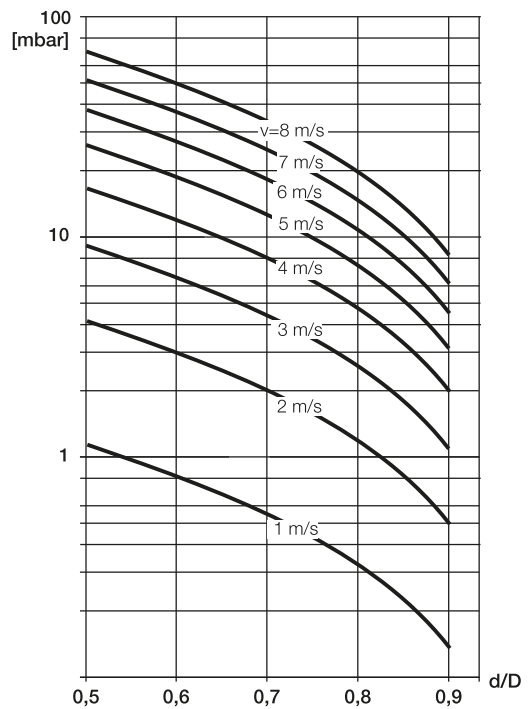

Figure 27 Flow rate nomogram for pressure drop calculations for flange transition piece with $\alpha/2 = 8^\circ$
2. Determine the flow velocity based on the flow rate nomogram (Figure 27).
3. Read the pressure drop on the Y-axis in Figure 27.